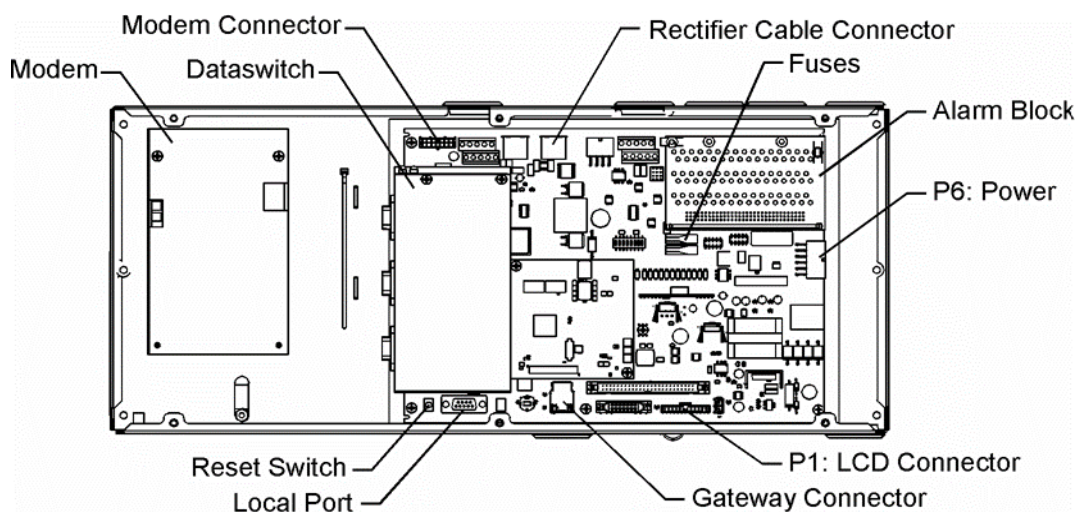

Figure 4-3: Millennium II Controller Connections
5.	Operate the reset switch on the MCR1 board in the lower left corner of the MCR1 board. (see Figure 4-3)